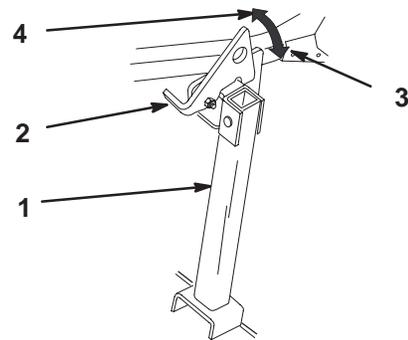

Figure 26
- Raise latch to unlocked position (Fig. 26).